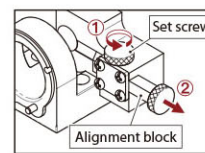
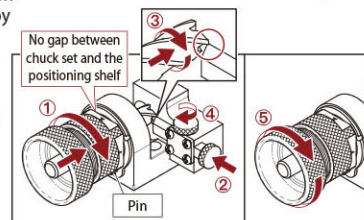
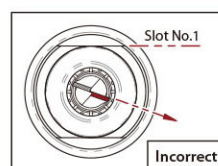

Fig. 3-1
Fig. 3-2
Fig. 3-3
1. Preset the position of the alignment block. (Fig. 3-1)
- ① Loosen the set screw by counterclockwise.
- ② Pull out the alignment block to the end.
2. End mill positioning (Fig. 3-2):
- ① Align Slot No.1 of the clamping nut to the pin on the positioning shelf, insert the chuck set into the positioning shelf and fit them with no gaps, then turn the chuck set clockwise until it stops by the pin.
- ② Slowly move the alignment block inward.
- ③ Push the end mill to the end and slowly turn it clockwise until the outer corner of the end mill's longer cutting edge touches the tip of the alignment block.
- ④ Turn the set screw clockwise to lock the alignment block.
- ⑤ Tighten the chuck set to secure the end mill.
3. Gently turn the chuck set counterclockwise and take it out, make sure the end mill's longer cutting edge is parallel to the Slot No.1 of clamping nut (See Fig. 3-3).
- ✘ If the end mill's longer cutting edge is angled away from the Slot No.1 of clamping nut (Fig. 3-3), change to the alignment block with a notch on the front, insert with the notch facing up (Fig. 3-4), then reposition the end mill.